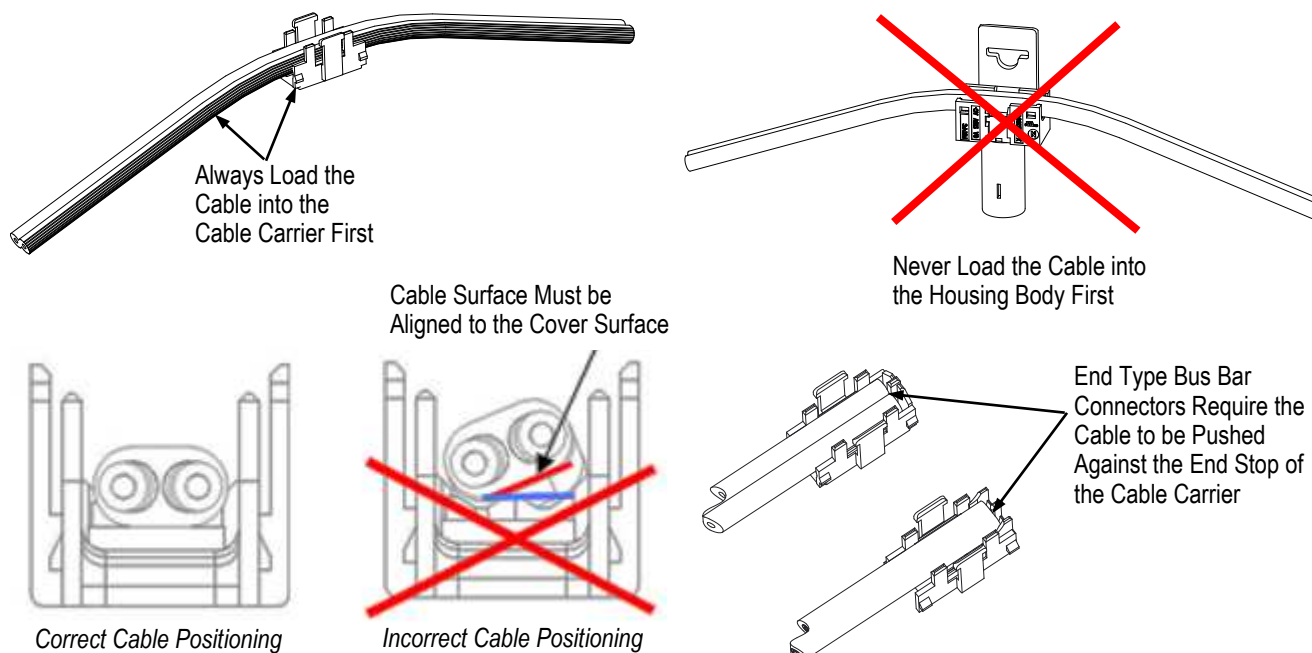

Figure 4
*Make sure that the cable is resting FLAT inside the channel to ensure the termination is successful. See Figure 4.*